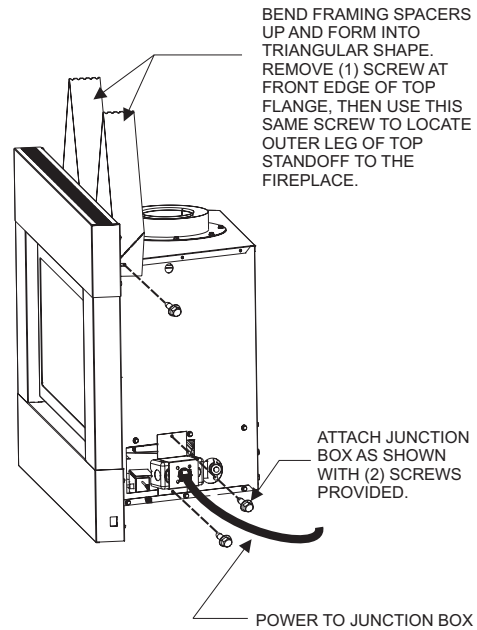

Figure 10
7. Prior to installing the Fireplace, hand bend the two (2) Top Framing Spacers into triangles as shown in Figure 10. To attach the outer leg of the standoffs, remove one (1) screw from the front of the outer top flange of the fireplace, then re-install the same screw through the tab of the top standoff spacers into the outer top to secure. See Figure 10.
The blower accessory may be installed at any time before or after installation of the fireplace providing that the junction box has been properly pre-wired and secured to the right hand side of the fireplace outer wrap. See Figures 10, 43 and 44.
Note: For shipping purposes, the junction box is installed on the inside of the outer fireplace wrap. It is secured with (2) screws on the side of the fireplace. Once removed from the side of the fireplace, wiring to the junction box and receptacle can be performed. Re-install the junction box assembly to the side of the fireplace so that the receptacle faces inward. See Page 11, Figure 10.